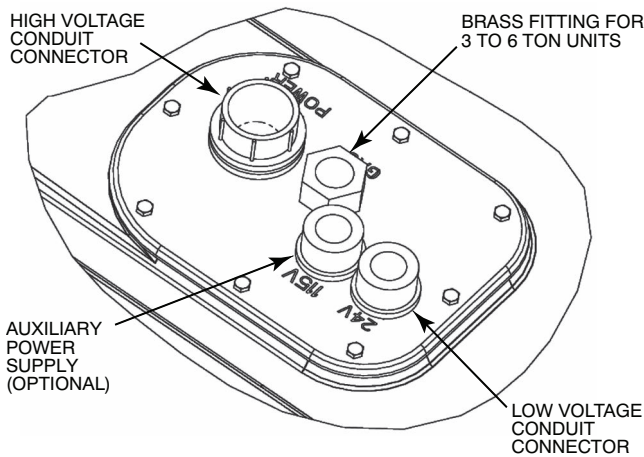

Fig. 18 — Thru-Base Connection Fittings
The 3/4-in. bulkhead connector enables the low-voltage control wires to pass through the basepan. The 1/2-in. bulkhead connector allows the high-voltage power wires to pass through the basepan. See Fig. 18.
3. Place the gasket over the embossed area in the basepan, aligning the holes in the gasket to the holes in the basepan. See Fig. 18.